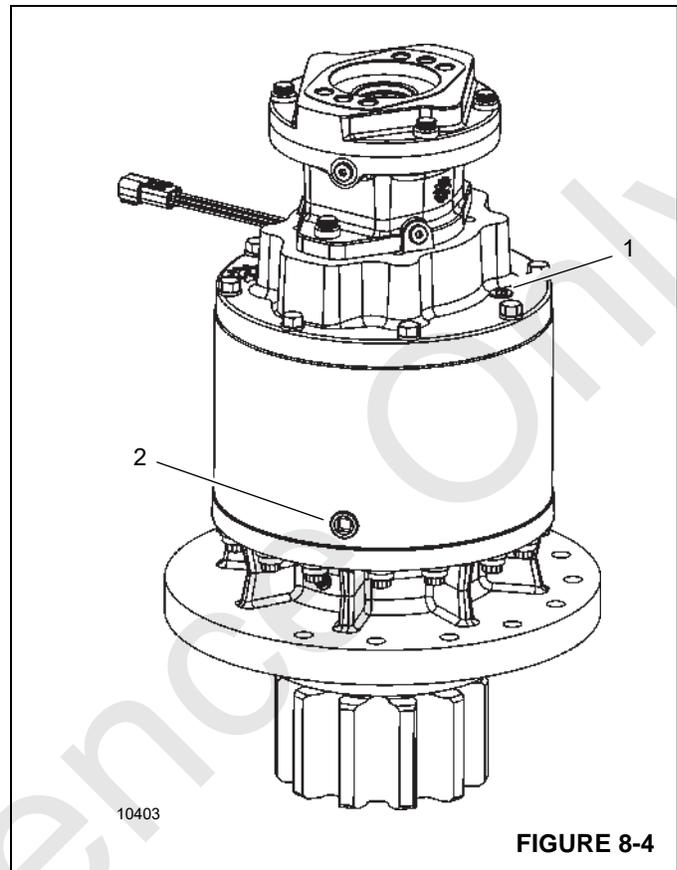

FIGURE 8-4
1. Remove the vent/fill plug (1, Figure 8-4) and drain plug (2) to drain the gearbox oil.
3. Replace the drain plug (2). Inspect and replace the o-ring as needed.
4. At the vent/fill level/fill plug (1). Fill the swing gearbox with 2.4 liters (2.5 quarts) of the appropriate type of oil, and then replace the vent/fill plug (1). Inspect and replace the o-rings as needed. See “Lubrication Points” on page 8-3 of this manual.
Open the fill port (1, Figure 8-4). The oil level should be 3.81 cm (1.5 in) below the top surface of the fill port.